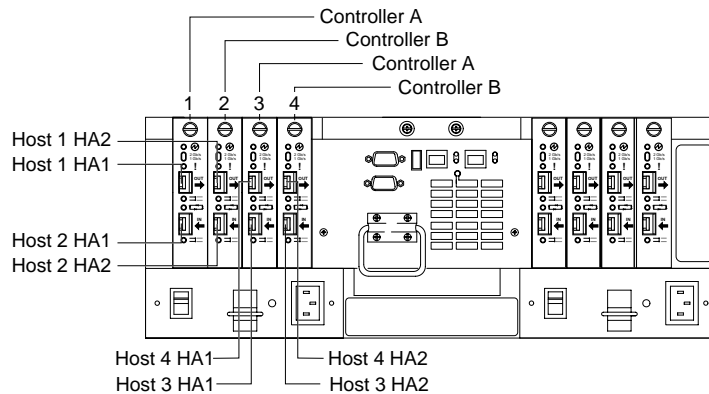

Figure 35. Connecting hosts directly to the controller
1. Connect the first host (Host 1) to the FASSt700 Storage Server, as shown in Figure 35.
2. Connect a second host (Host 2) to the FASSt700 Storage Server, as shown in Figure 35.
3. Connect a third host (Host 3) to the FASSt700 Storage Server, as shown in Figure 35.
4. Connect a fourth host (Host 4) to the FASSt700 Storage Server, as shown in Figure 35.